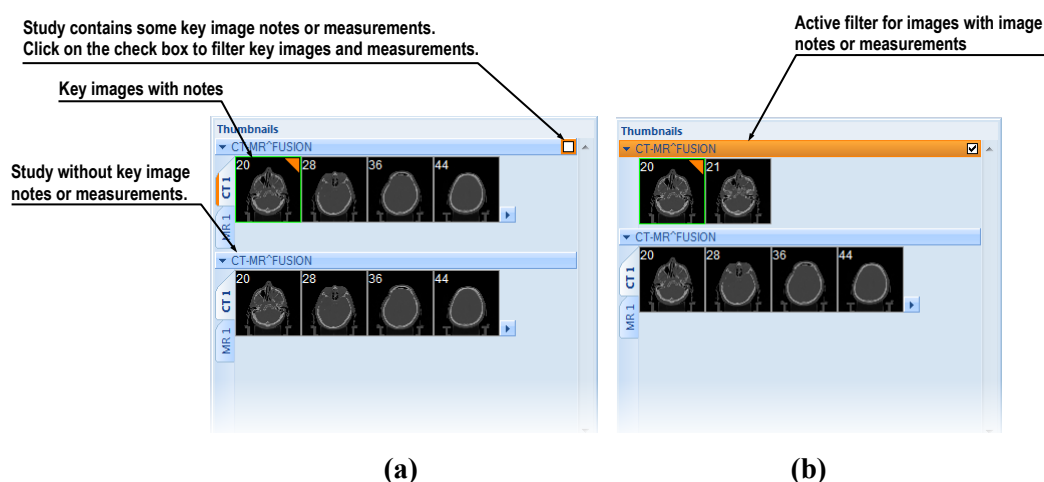

Figure 32 – Measurements and key image notes in thumbnails palette, (a) filter for key images is disabled, (b) filter for key images is activated
The TomoCon thumbnails palette offers a special image filter for quick identification of defined measurements or key notes in the images. It allows you to display only images or MPRs containing one or more measurement(s) or key note(s). When a study contains a measurement (in an MPR or image) or a key note (only in an image), the study header displayed in the thumbnail palette contains the orange filter check box in the right-hand corner (see Figure 32).
1. Click the check box in the right-hand corner of the study header (see Figure 32 a).
2. Only the images with measurements or key notes are displayed (see Figure 32 b).